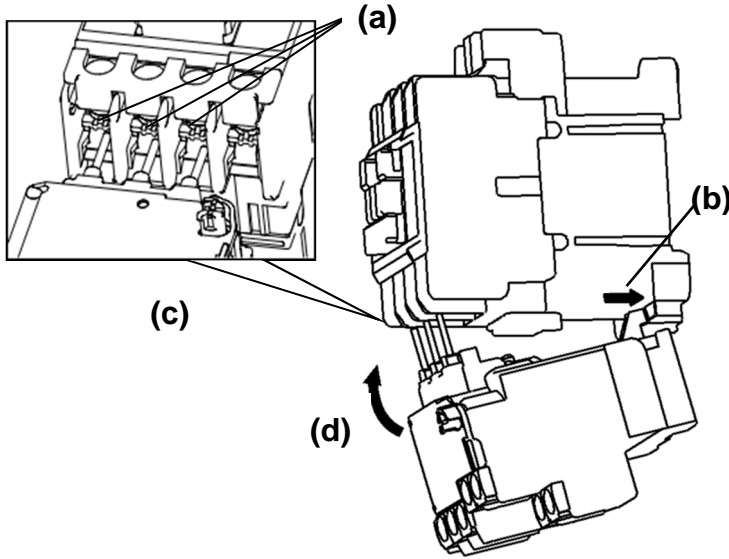

Figure 8.1 Mounting to the Magnetic Contactor
- Mount the thermal overload relay according to the following procedure. (Figure 8.1)